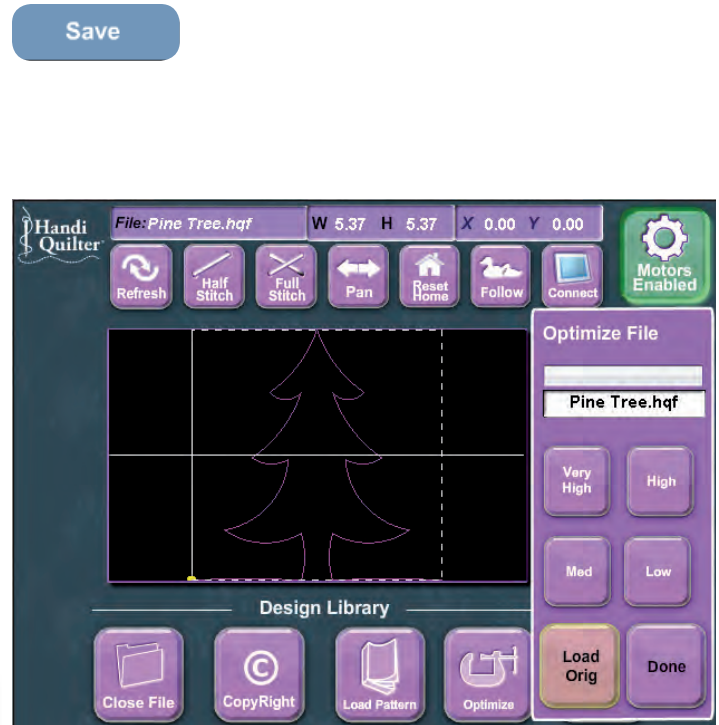

Figure 53
1. Tapping the “Optimize” button opens a pop-up window with four optimizing options – Low, Med, High and Very High (Figure 53). Low will have the least effect on speed and Very High will have the greatest. Very High also has the greatest potential to alter the look of the pattern.